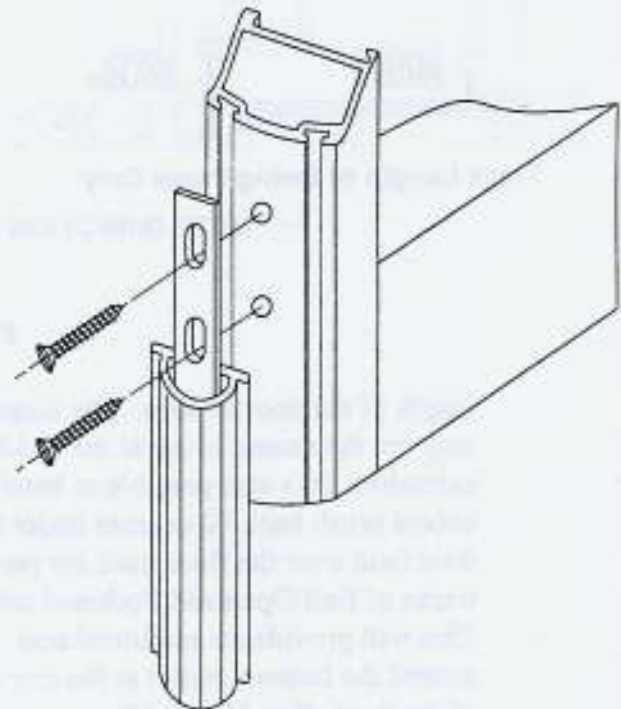

Figure 40
3. Screw the metal strip to the door edge, pinching the rubber seal to the stile (See Figure 40).